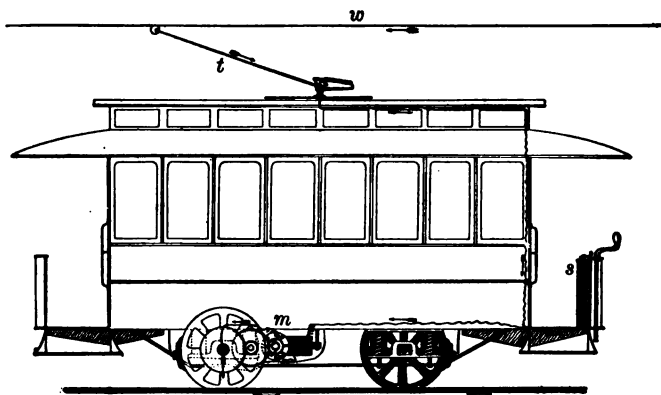

FIG. 217
**337. Electric Cars.**—Fig. 217 shows how electrical energy may be used to run street cars. A dynamo current passes through the wire  $w$ . From this it is conducted through the *trolley*,  $t$ , to the top of the car; then by wires through the *controller*,  $s$ , and to the *motor*,  $m$ , under the car. After passing through the motor, the current goes through the wheels and rails back to the power house, thus completing the circuit.